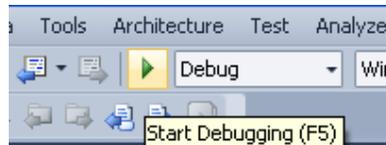

Figure 20: Start Debugging
- Click the green Run button (shown in Figure 20) to start the configuration utility. The configuration utility configures Gigabit Ethernet interfaces, Interface MAC tables, Interface IP tables, IP LPM tables and ARP tables.